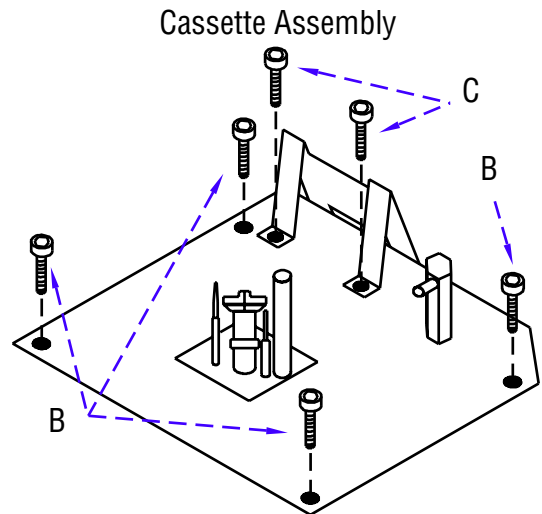

Figure 37
7. From inside the firebox, remove the two allen head screws (screws C in Figure 37) and the bracket they secure.
8. From inside the firebox, remove all four of the allen head screws (B in Figure 37) fastening the cassette to the firebox. The cassette is sealed to the stove using high temperature cement. It may be necessary to cut through this cement to remove the cassette.